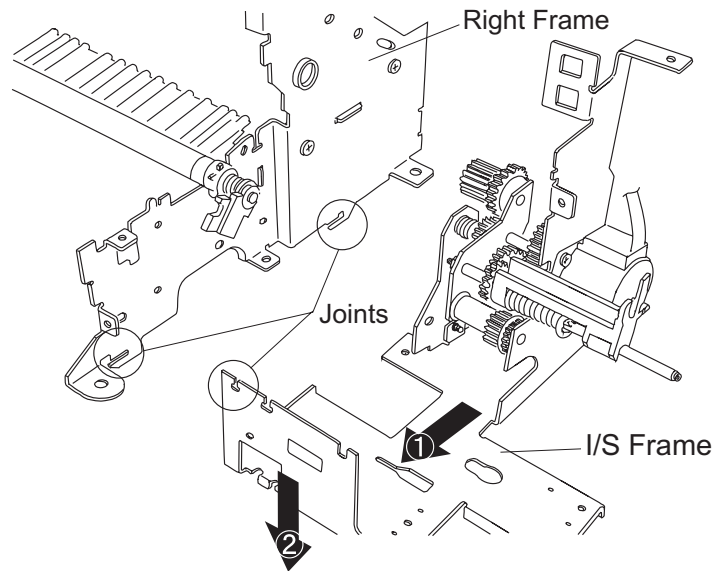

Figure 3-59. I/S Frame Removal (2)
4. Remove 2 screws (CBS, 3x6, F/Zn) securing the I/S frame and right frame. (See Figure 3-59.)